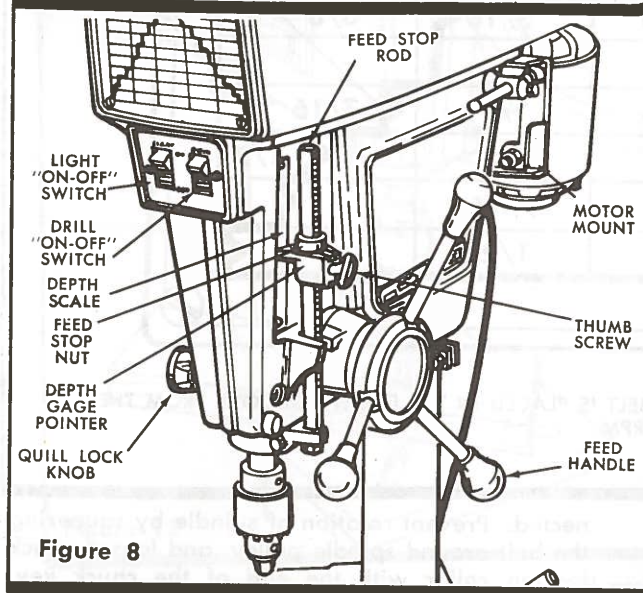

Figure 8
7. Screw thumb screw partly into depth gage pointer. Place depth gage shoe inside depth gage pointer. Slide the depth gage pointer onto the feed stop rod and tighten thumb screw. Screw the feed stop nut on the feed stop rod (See figure 8). Make sure depth gage pointer is positioned on feed stop rod with pointer on top.
8. Install a 60-watt incandescent bulb in the socket inside of head. Mount lens with (2) pan hd. mach. screws #10-32 x 9/16 long.
2. **Feed Stop Rod.** Carries the feed stop nut and depth gage pointer (see figure 8). Adjust this depth stop or position the table to avoid drilling into the table.
3. **Feed Handle.** The feed handle is used to raise and lower the quill a total distance of four inches. (See figure 8).
4. **Quill Lock Knob.** The quill lock knob (when tightened) holds the quill at any depth of cut for such operations as shaping, routing, surface grinding, etc. (See figure 8). Always release the quill lock before attempting to raise or lower the quill.
7. **Feed Stop.** The feed stop assembly provides a means of pre-setting hole depths before drilling or for drilling several holes to the same depth. (See figure 8). The depth gage pointer thumb screw (when tightened) holds the depth gage pointer in place. The feed stop nut prevents the depth gage pointer from moving when it reaches the maximum travel.
- b. With drill installed in chuck, loosen quill lock knob and lower quill by rotating feed handle until tip of drill contacts top surface of work piece. Tighten quill lock knob. (See figure 8.)
- Motor Mount.** The motor mount is designed with a hinge arrangement in order to make changing of spindle speeds easy and rapid. In addition, a quick-type belt adjusting rod has been provided, which will, in effect provide a solid motor mount and maintain proper belt tension when the drill press is operating (See figure 8).
- Switches.** The light and the motor are controlled by separate switches located on the front of the drill press head (See figure 8).